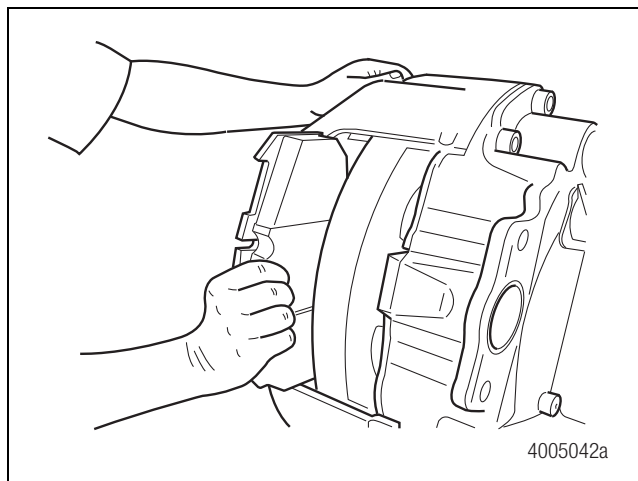

Figure 4.18
2. Slide the caliper OUTWARD. Install the outboard pad and spring into the outboard side of the caliper. Figure 4.18.
3. Slide the caliper INWARD. Install the inboard pad and spring into the inboard side of the caliper. Figure 4.18.